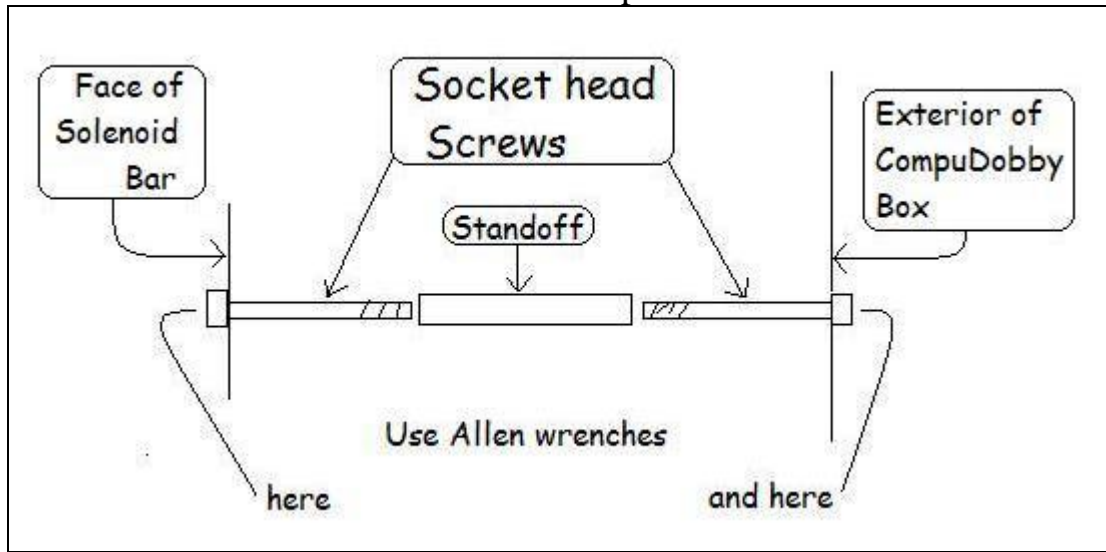

Figure 2 – Mounting Hardware for the Solenoid Bar
5. Loosen the two interior screws that hold the Solenoid Assembly to the Box and carefully pull the Assembly free of the stand-offs. Do not loosen the exterior screws for this Assembly or you may lose the alignment of the Solenoids with the Dobby Wires. Once the Assembly can be pulled out from the back of the Box, the Plungers, Springs, and any Mylar washers will slide freely out of the Bar and may be lost. So, keep the Assembly at an angle with the length of the Plungers (the end that holds the Tip) pointing down. See Figure 2.